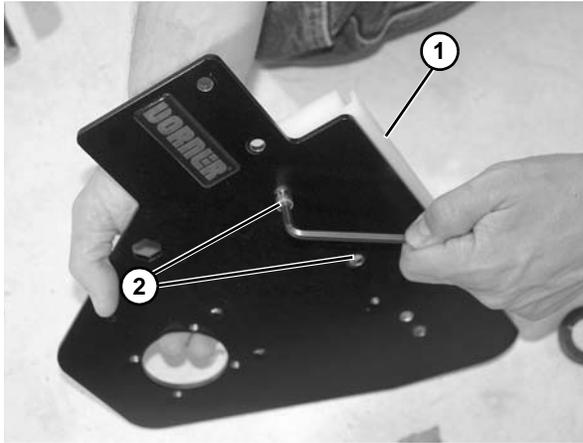

**Figure 61**
14. Remove each extrusion (Figure 61, item 1) and support plate (Figure 61, item 2) from crossmember (Figure 61, item 3).
15. Inspect and replace wear strip (Figure 61, item 4) if necessary.